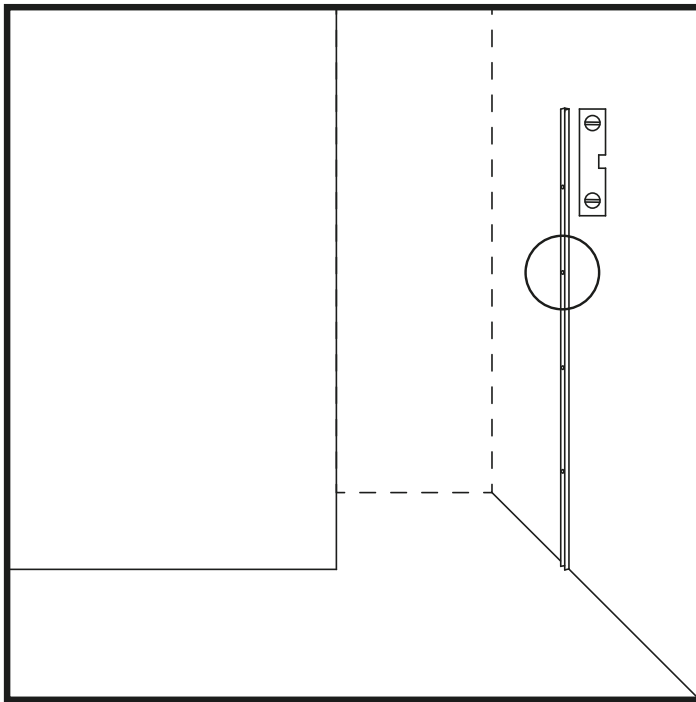

Figure 3
5. Place the longer U-profile vertically on the wall using a level so that the edge of the U-profile is flush with the marked dot and the end of the slat is against the floor. (Figure 3)